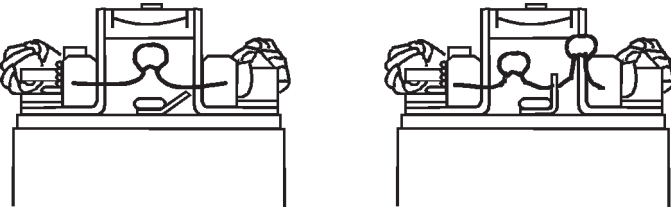

Fig. 153
□ **Figs. 153 & 154 BALL BEARING KITS** do not come with a motor bag. This means you will need to supply your own motor, matching pinion gear, and capacitors. These can be purchased from most local hobby dealers. There is a chart in the tuning section of the manual that will give you a recommended pinion gear for most motors. If you have any questions, take your manual to your local dealer and he can assist you. If you have any motor assembly or installation questions, the following instructions for the bushing versions will also work for the bearing kits as well.
If the motor you purchased already has one or more capacitors installed just add the ones you will need to bring the total to three. Open the motor bag and remove the three capacitors we supply. These will normally be a light brown or blue color. Solder the capacitors on as shown in the drawings in fig. 153. If your motor already has some installed just solder on the ones that are missing according to the drawings. **Note:** Make sure that each lead of a capacitor only touches a lead of another capacitor connected to the same terminal or can grounding point.